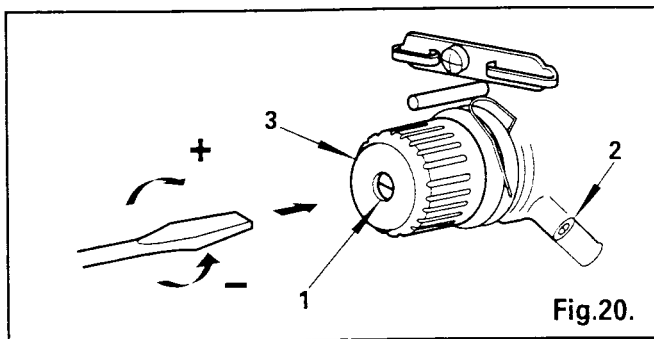

Fig.20.
Using a screwdriver in slot of stud (1), Fig.20, regulate take-up spring tension by turning stud (1), as required.
To adjust the amount of take-up spring movement, loosen screw (2), Fig. 20, and set take-up spring height by turning the entire tension assembly (3) toward left or right, as required. Securely tighten screw (2).